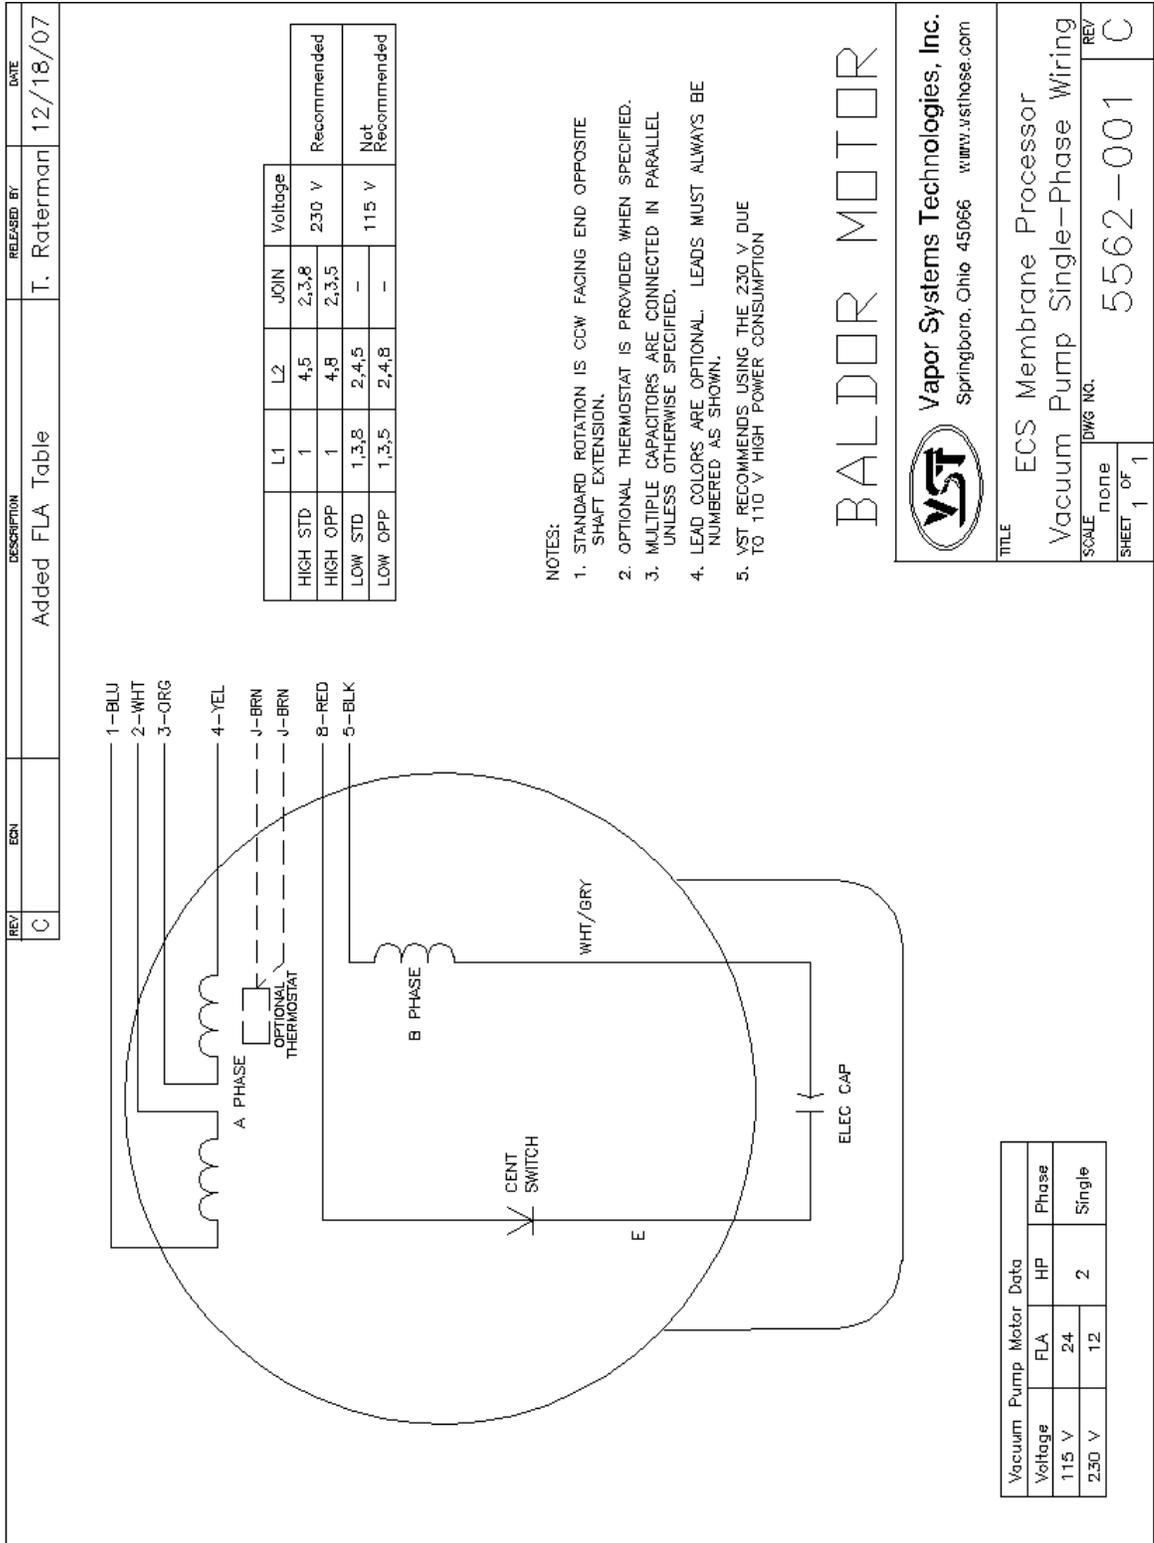

Figure 20: Vacuum Pump: Single-Phase Motor Wiring Diagram
- ▶ **See Figure 20: Section 14 / Page 62 for the vacuum pump single-phase motor wiring diagram**